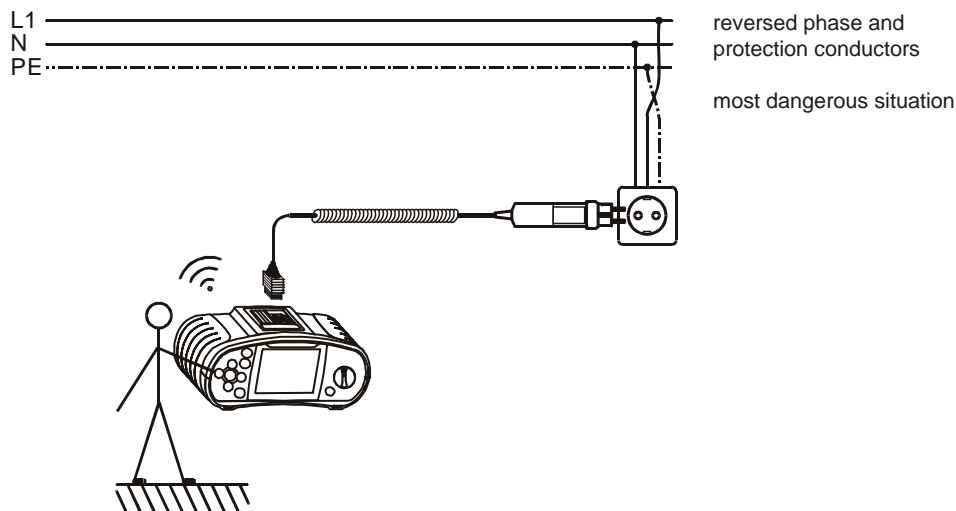

Fig. 5.42: Connection of plug cable and mains outlet with reversed L and PE conductors
Step 2 Follow the connection diagrams in figures 5.42 and 5.43 to test the PE terminal.